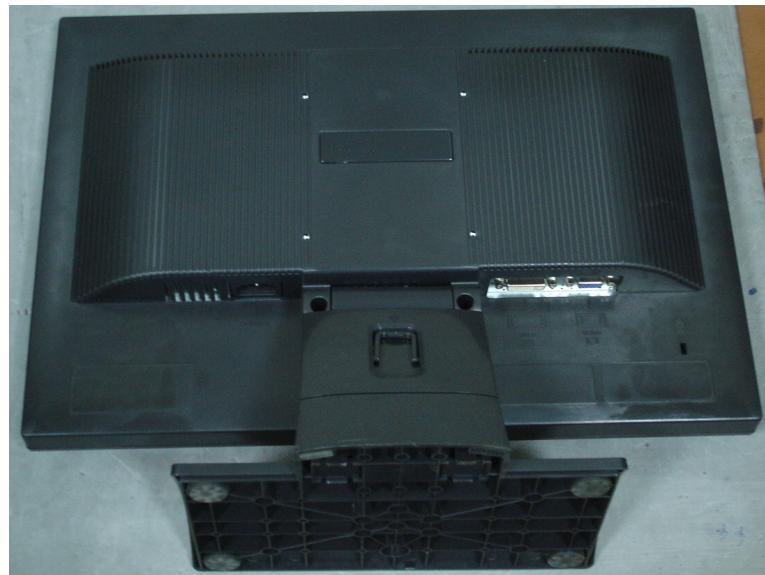

Fig1
1). Back View as Fig1
Place the monitor face down on a smooth surface as Fig 1. Be careful to avoid scratch and injury during the uninstall.